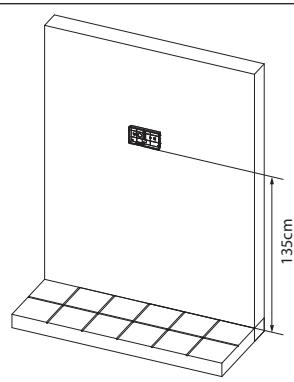
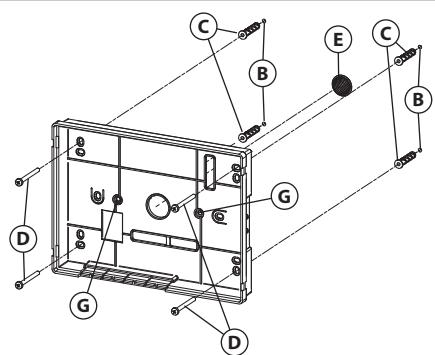

Fig. 3
Fig. 4
3. Put the base of the unit on the wall at approx 135cm from the finished floor (**Fig. 3**) to match the points for the fixing holes **B** (**Fig. 4**) remembering that the wires **E** (**Fig. 4**) must be fed through the large hole **F** (**Fig. 4**). If you use the flush mounting box 503, embed it into the wall vertically at approx. 140cm from the finished floor and the base.
4. Following **Fig. 4**, make the holes **B**, insert the wall plugs **C** and fix the base with the screws **D** feeding the wires **E** through the hole **F**. If you have used the box 503, fix the base to the wall through the holes **G** using the screws **D**.